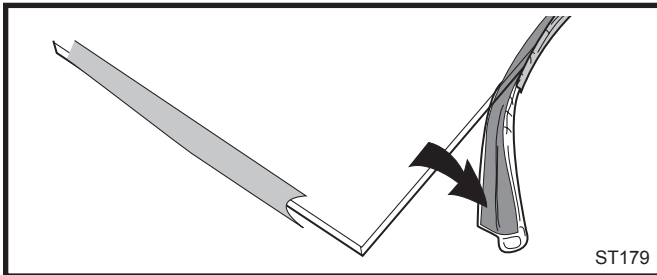

Fig. 60 Wrap the gasket material around the outside edge of the glass.
3. Starting on a long edge, remove about 6" of the protective paper strip and apply the flat adhesive face of the gasket around the outside-facing edge of the panel. Continue around the panel, applying a bout 6" at a time and being careful to not stretch the material. Do not overlap the gasket ends. (Fig. 60)